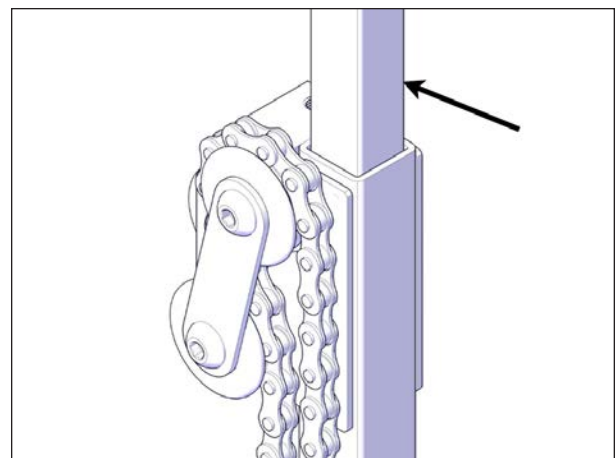

FIGURE 114: SLIDING PARTS TO GREASE
7. Spray grease on all the sliding parts and mechanical components of all jacks, see Figure 114.